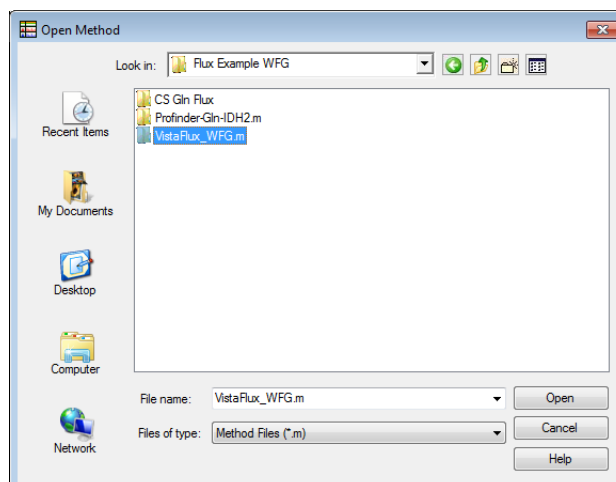

Figure 51 Open Method dialog box
- b Navigate to the folder that contains your method in the **Open Method** dialog box (Figure 51 on page 59).